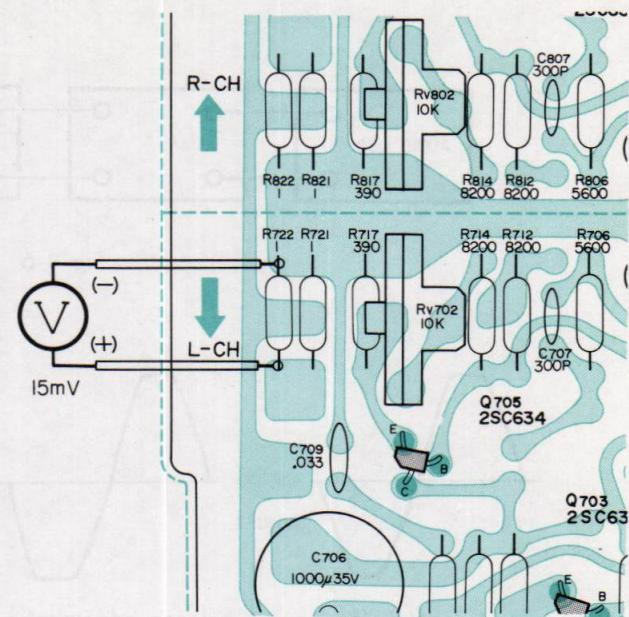

Fig. 4-5 Connection of dc volt meter across R722
cidental power-transistor damage, increase the ac line voltage gradually, using the variable transformer, while checking the voltage across emitter resistor R722 (1.0 ohm). Check to see that the reading does not exceed 15 mV. See Fig. 4-5.
- Connect a dc voltmeter across emitter resistor R722 (1.0 ohm) as shown in Fig. 4-5.